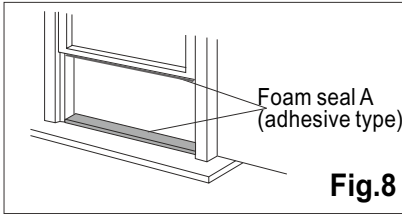

Fig.8
1. Cut the foam seals A(adhesive type) to the proper lengths and attach them to the window and stool.(Fig.8)